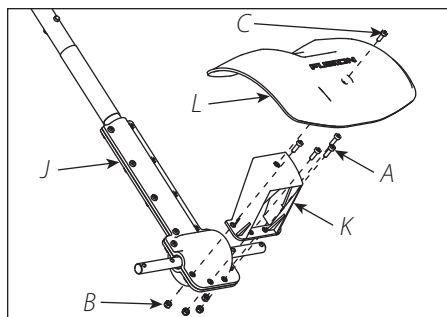

FIGURE 2
2. Assemble tine shield bracket (K) to transmission (J) with four bolts (A) and four nuts (B) using L-wrench (G), provided in hardware parts bag. **SEE FIGURE 2**
3. Assemble tine shield (L) to transmission assembly with bolt (C) using L-wrench (G). **SEE FIGURE 2**